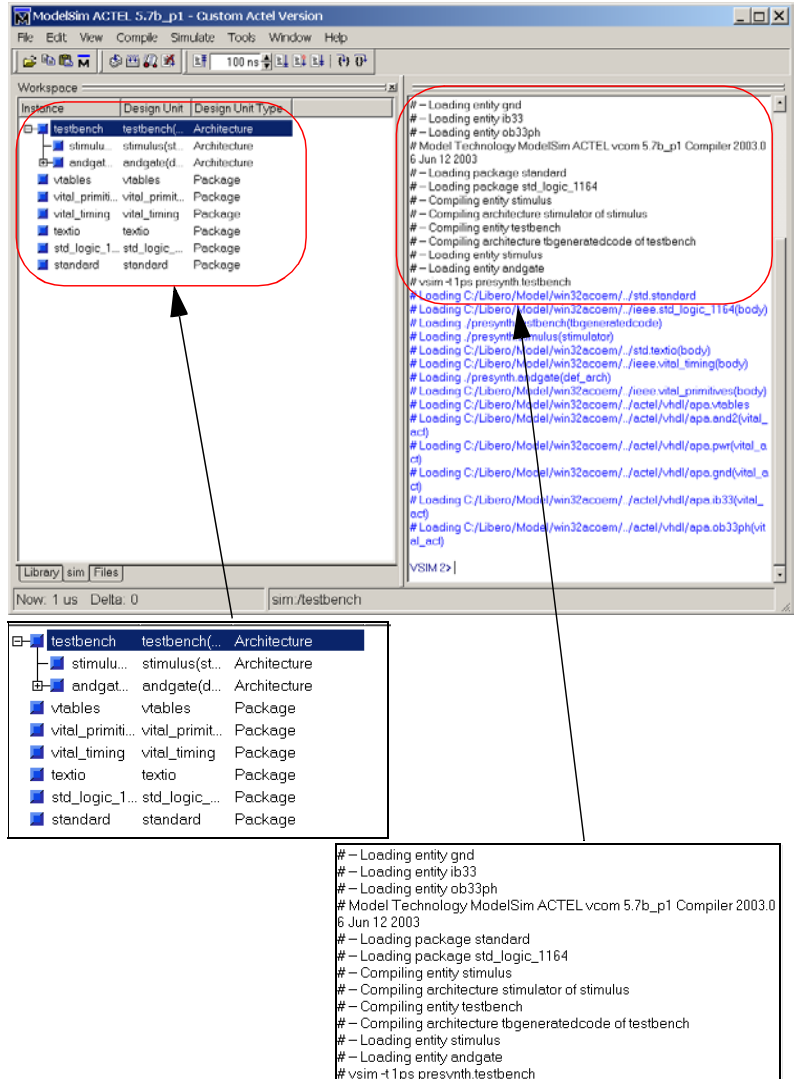

Figure 5-13. ModelSim Main Window
- The ModelSim VHDL simulator opens and compiles the source files, as shown in Figure 5-13.